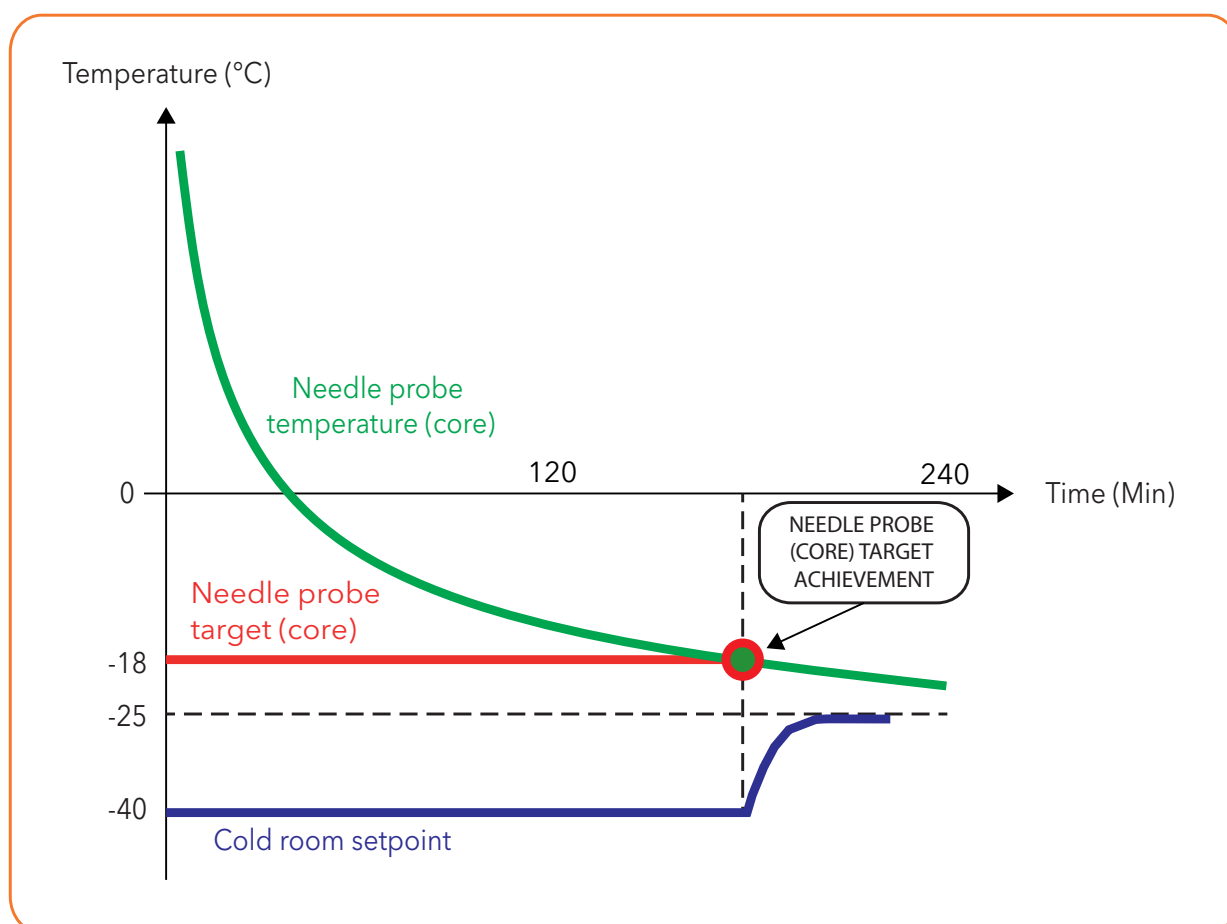

Fig. 7. Negative program
- negative (freezing), with negative reference temperature (target temperature) (**Fig. 7 on page 16**).